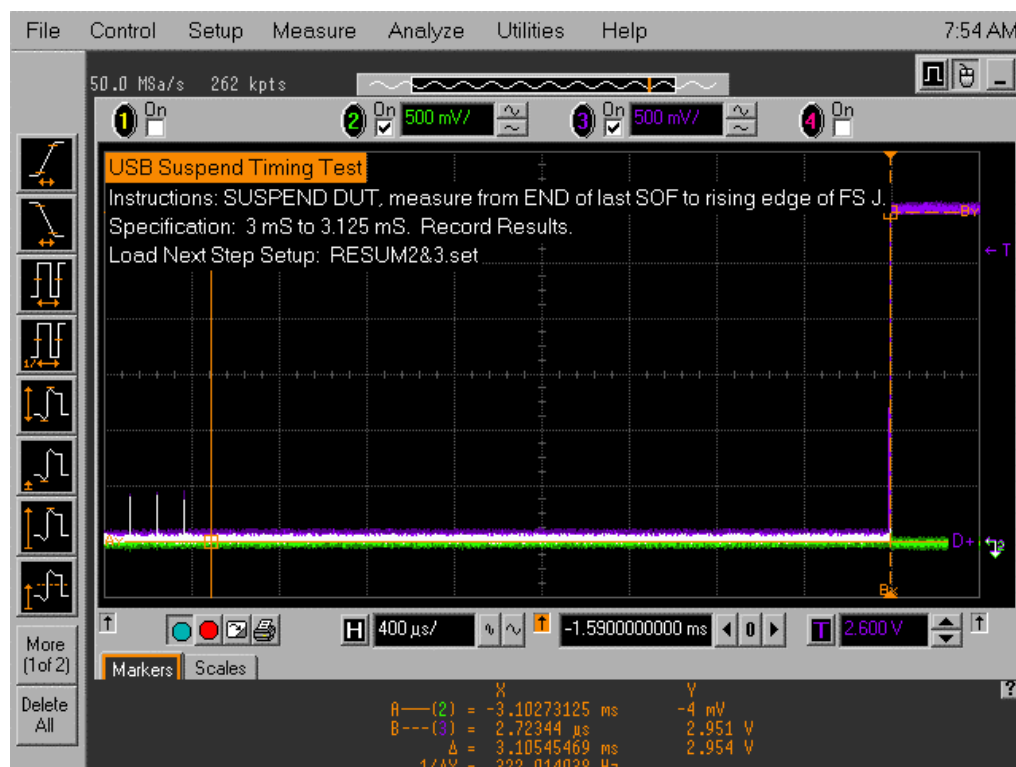

Figure 21. Device Response to Suspend from Hi-speed
- b. The captured suspend transition should appear as in Figure 21.
6. Using the oscilloscope markers, measure the time interval from the end of last SOF packet issued by the host to when the device attached its full speed pull-up resistor on D+, as shown in Figure 21